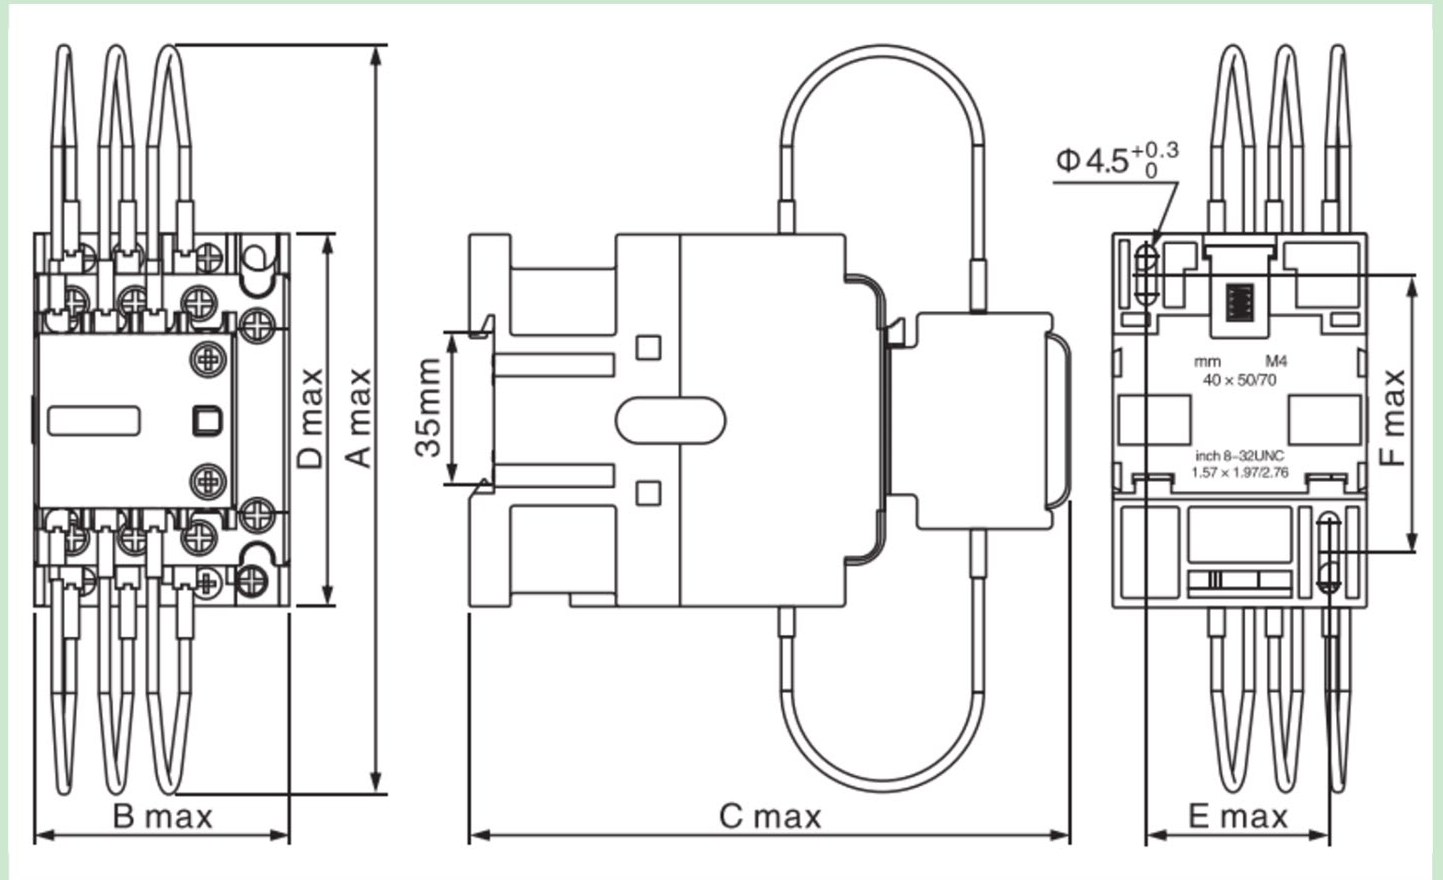

Fig. 2 Outline and installation dimensions of CDC19s-25, 32, 43
- The outline and installation dimensions of contactor are shown in fig.2,.3,.4 and Table 3.